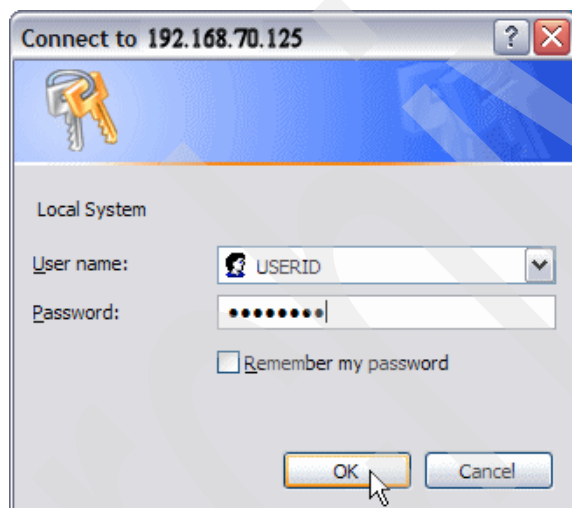

Figure 5-43 Connect to window of Service Processor
2. Open a Web browser. In the address or URL field, type the IP address 192.168.70.125 of the RSA II to which you want to connect. The Connect to window opens (Figure 5-43).